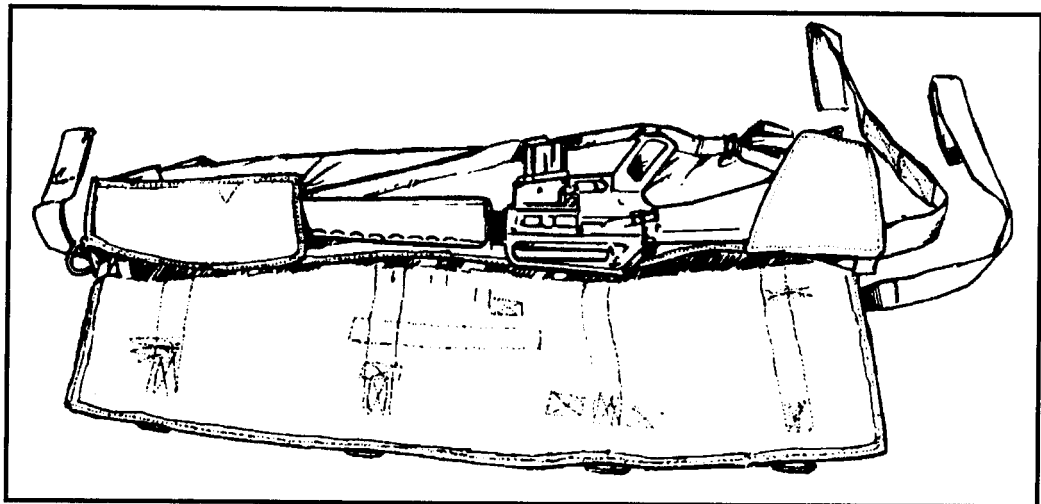

Figure 12-50. Positioning the M16/M203.
(1) Insert a 20-round magazine into the rifle (optional).
(2) Secure a 30-round magazine to the sling of the rifle, using adhesive tape (optional).
(3) Insert the rifle muzzle into the muzzle stow pocket and place the butt in the rifle butt stow pocket as shown in Figure 12-50, page 12-54. Ensure that the magazine well and pistol grip point toward the side securing straps, and the rifle muzzle is inserted into the muzzle pocket as far as possible.